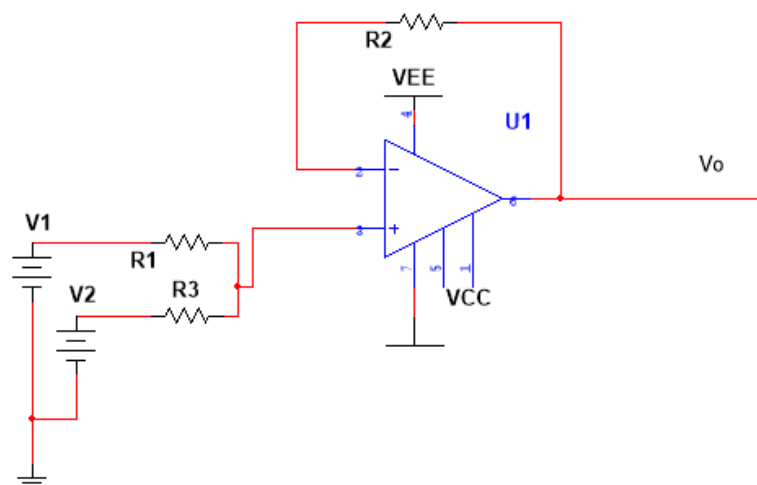

Fig 2.2: Op-amp as Inverting DC averager
2. The circuit is set-up as shown in figure 2.2. The supply voltage $\pm V_{CC}$ is set at $\pm 12V$.